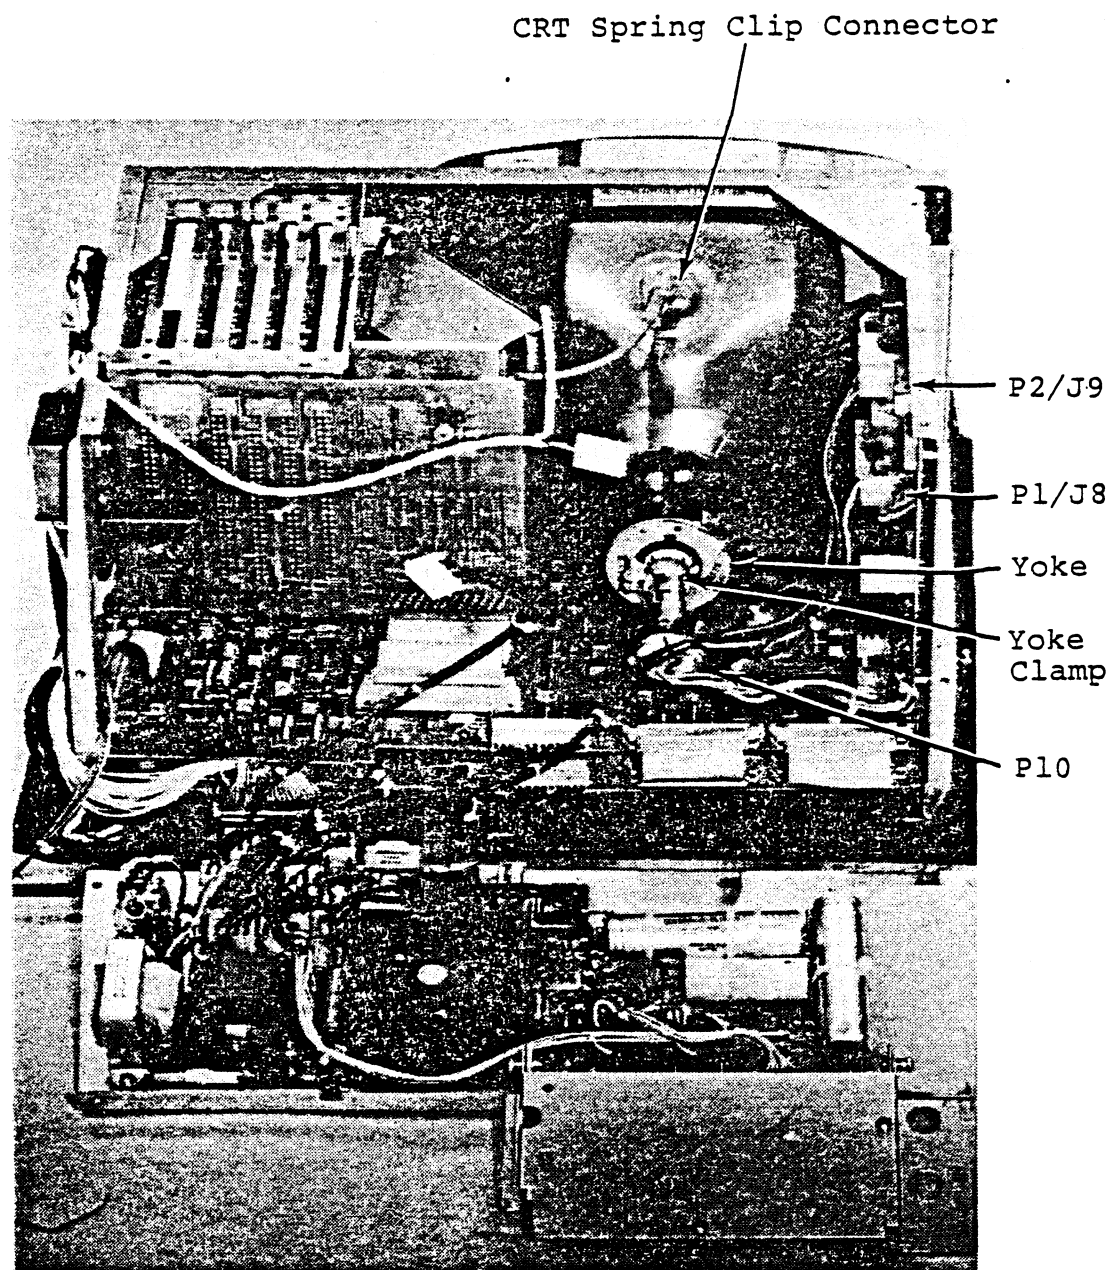

Figure 5-9. CRT/Yoke Assembly
- b. Discharge the post accelerator by carefully slipping the blade of a common screwdriver under the rubber cap and grounding the shank of the screwdriver to the chassis. See Figure 5-9.